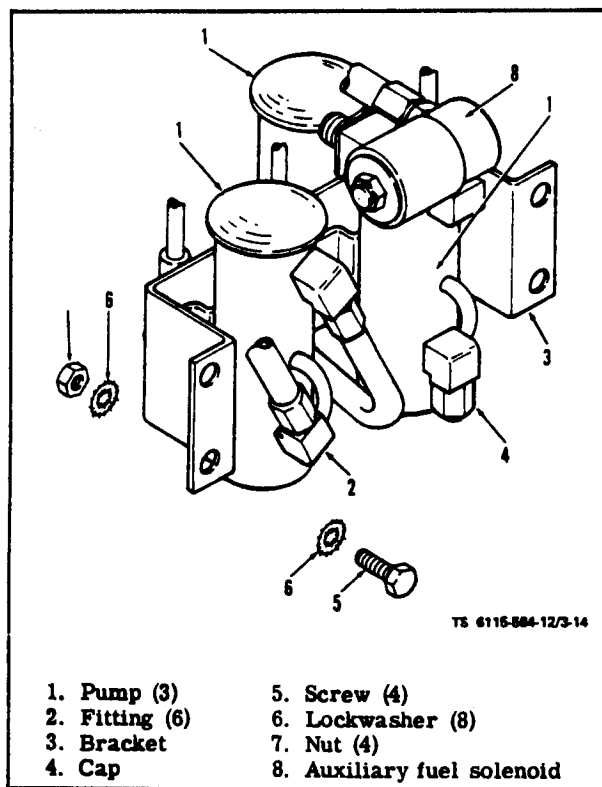

Figure 3-14. Fuel Pump Assembly
(3) Fuel Pump Assemblies (Three) (see figure 3-14). Inspect fuel pumps (1) for dents or other physical damage. Check for leaks especially around hose assembly fittings (2). Check that fuel pumps are securely attached to mounting bracket (3) and that mounting bracket is securely attached to bracket support on skid-base. Inspect electrical leads to fuel pumps to see that wires and connectors are not broken, frayed, or damaged. Check that connectors are tightly connected. Check that cap (4) on auxiliary fuel pump inlet is securely in place when unit is not being run from auxiliary fuel supply,